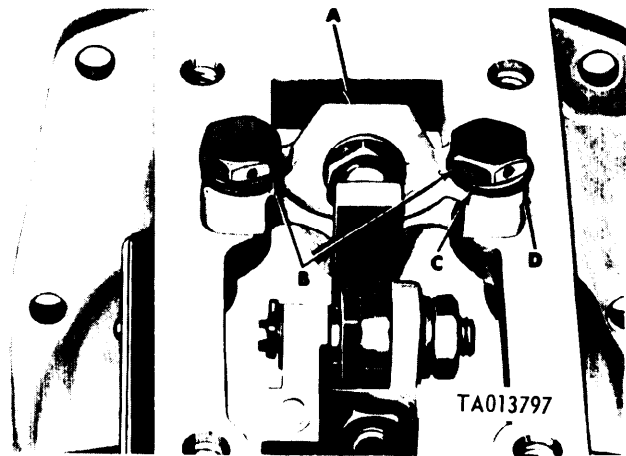

Figure 3-156. Installing plate and bridge assembly on governor housing (code G pumps).
(1) Refer to figure 3-156. Install plate and bridge assembly (A) on governor housing and secure with two capscrews (B), lockwashers (C), and flat washers (D). Torque tighten screws to 50-60 inch-pounds.